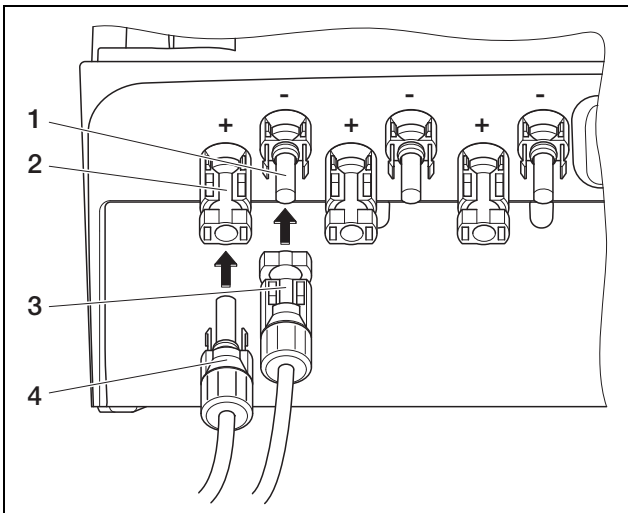

Fig. 20: Connecting the PV string
- Insert the PV string plugs until they engage in the corresponding counterparts on the inverter (figure 20).